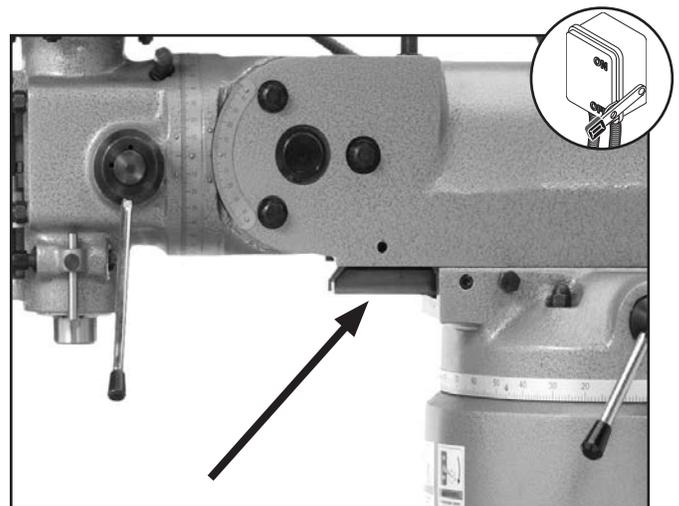

Figure 57. Ram dovetail way.
2. Move the ram horizontally as needed, and apply a thin film of ISO 68 or SAE 20 non-detergent oil to the full length of the ram way (see **Figure 57**).